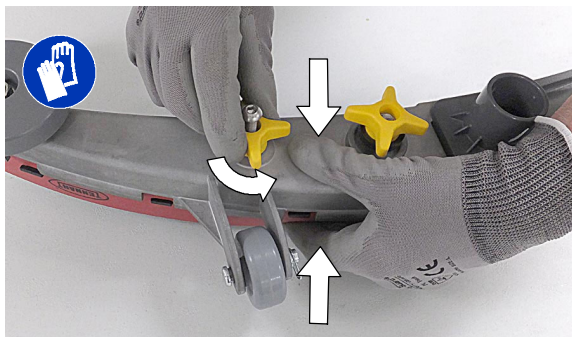

FIG. 92
- Fully loosen the two outside knobs on squeegee assembly. This will separate the spring loaded blade retainer from squeegee frame (Figure 92). To loosen the knobs quickly, squeeze the blade retainer and squeegee frame together.